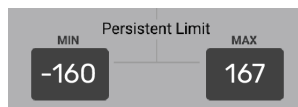

Figure 48 - Persistent Limit Buttons
- **Persistent Limit buttons** — The **MIN** button toggles to set or clear the minimum persistent limit. The **MAX** button toggles to set or clear the maximum persistent limit. See **Figure 48**.